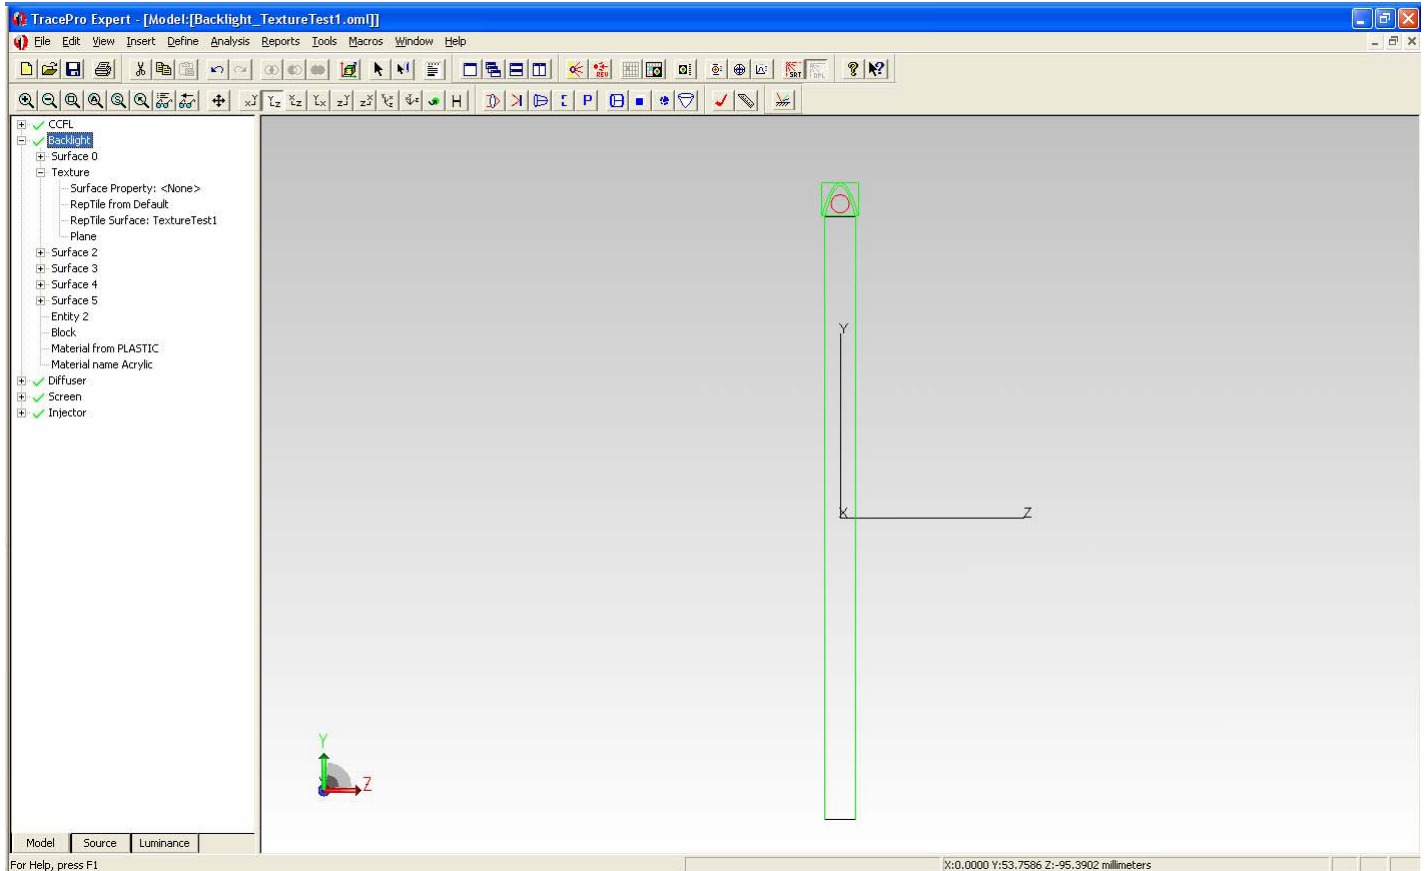

Figure 24. System Tree for the Backlight > Texture surface.
7. As per Fig. 24, inspect the System Tree such that the properties for Backlight are as shown (Note: Fig. 24 also shows all of the other objects.)